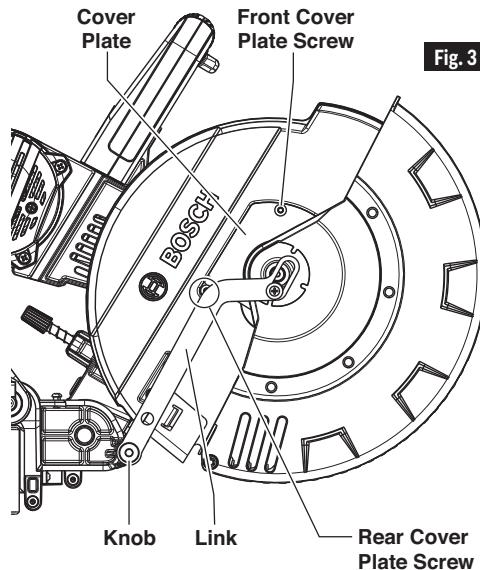
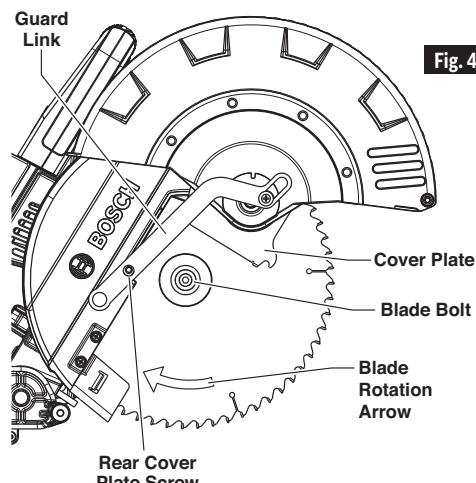

Fig. 3
Fig. 4
1. Position the saw in the UP position and at 0° bevel. If in the DOWN position, press down slightly on the saw head assembly and pull out the head assembly lock pin (item 43, page 12); then allow the saw head to come up (see Figure 3).
2. Unscrew the link knob (item 28, page 11) by hand from the pivot post and allow the link assembly to hang. The link knob will stay on the link.
5. Slide the cover plate down and out from the rear screw. Rotate the cover plate and lower guard counterclockwise around the front screw. While holding the lower guard up against the upper guard, move the link so its round hole can go over the rear screw – let go and the lower guard assembly will be held out of the way (see Figure 4).
- Carefully handle the new blade. Check that the rotation arrow on the blade matches the rotation arrow on the lower guard. Slide the blade up and between the sides of the chip deflector and over the arbor shaft. Move the blade so its arbor hole goes around the support ring of the inner washer (see Figures 4 and 5).